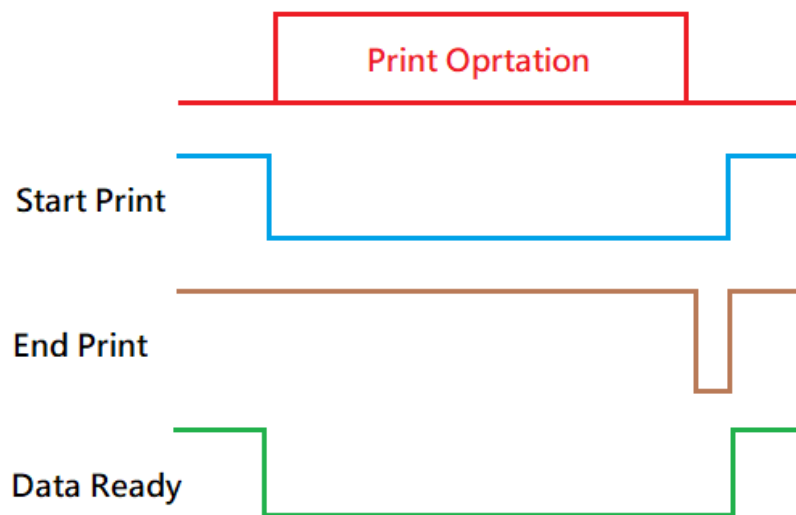

Figure 4
- d. Timing chart is as Figure 4.